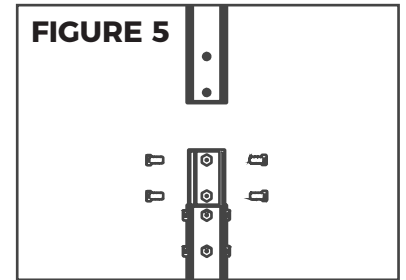

FIGURE 5
(Figure 5):**
9. Insert the coupling into the lower half of the power tube pole and secure with the included 1/2" washers and bolts as shown in Figure 5. Each pole will need two couplings.